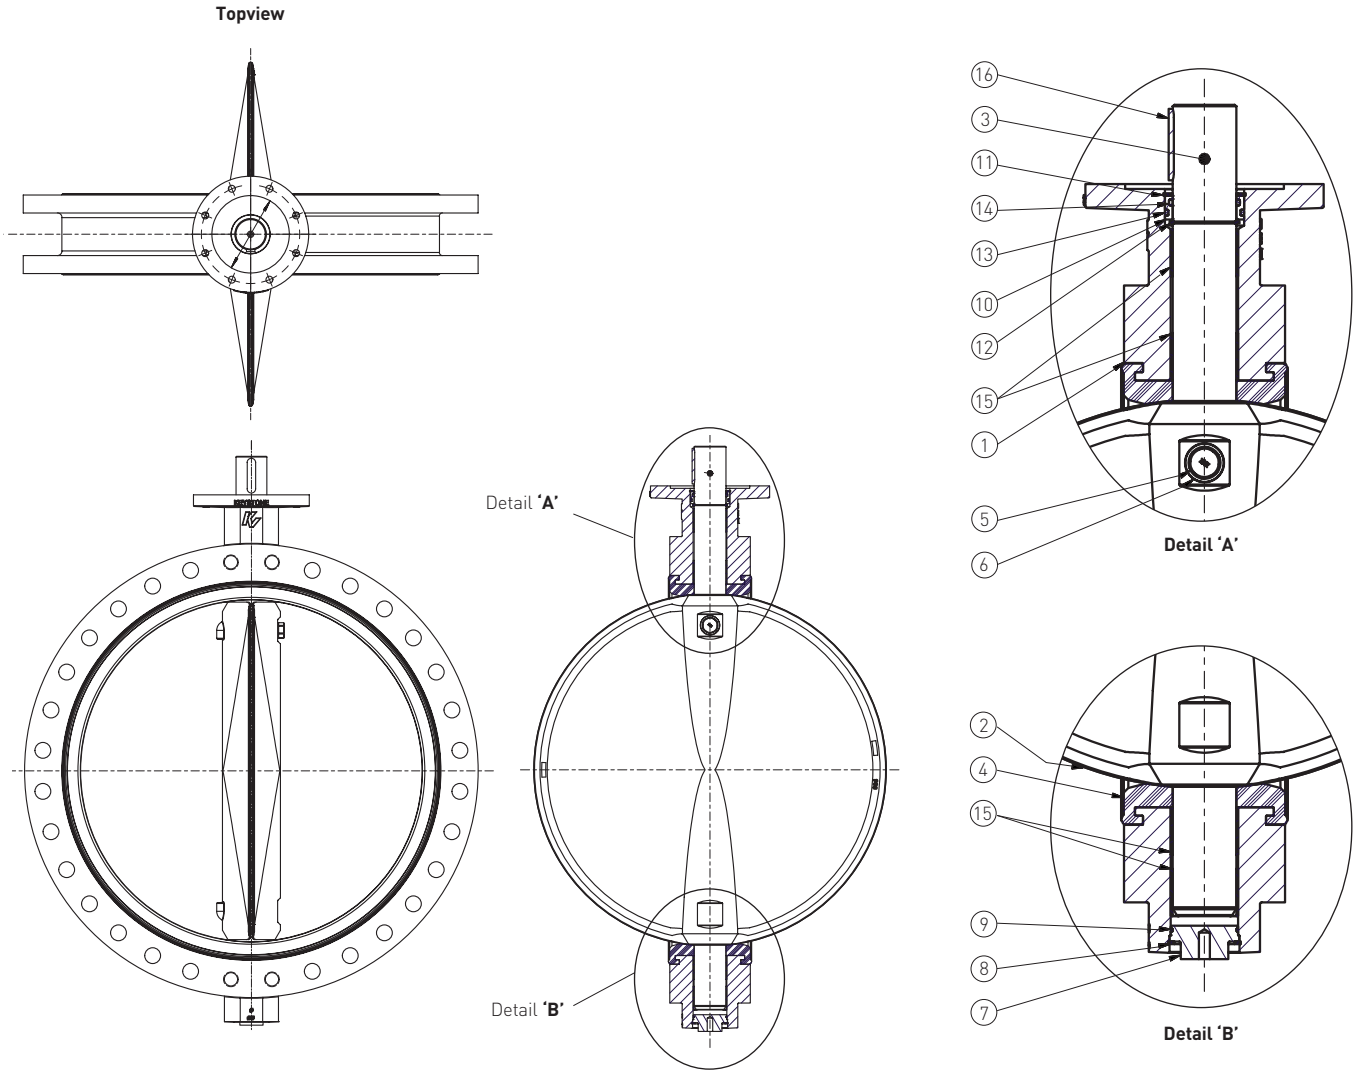

FIGURE 3
4.3 Valve disassembly (see Figure 3) DN 600-1000 (NPS 24-40)
4.4 Valve assembly (see Figure 3) DN 600-1000 (NPS 24-40)